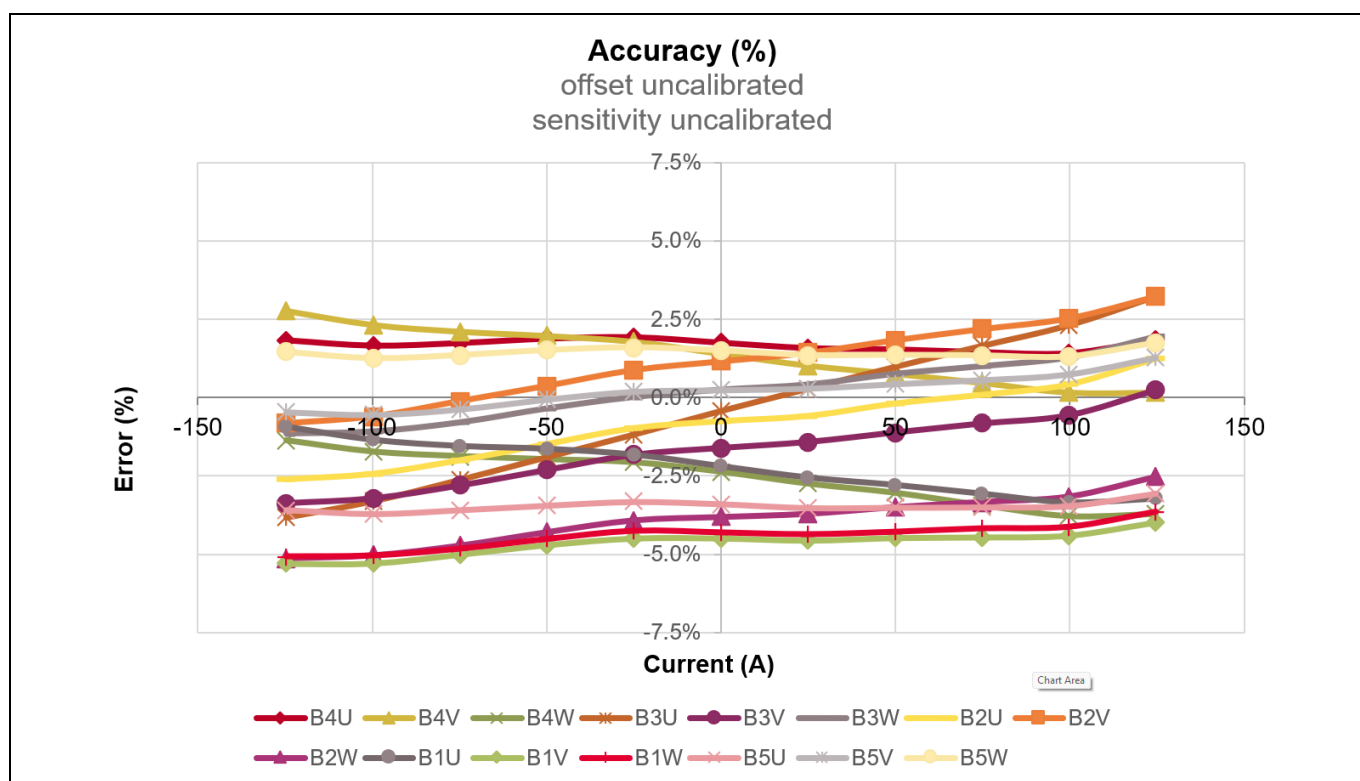
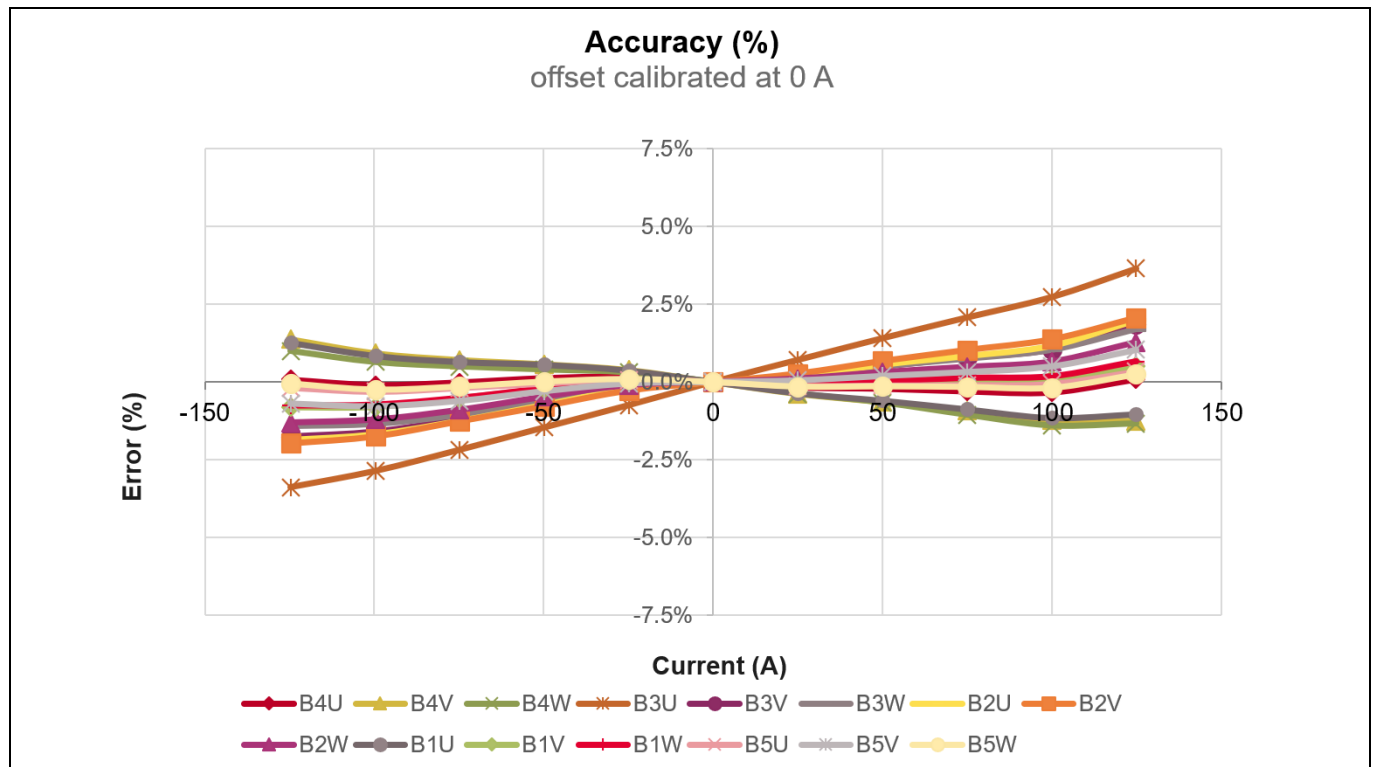
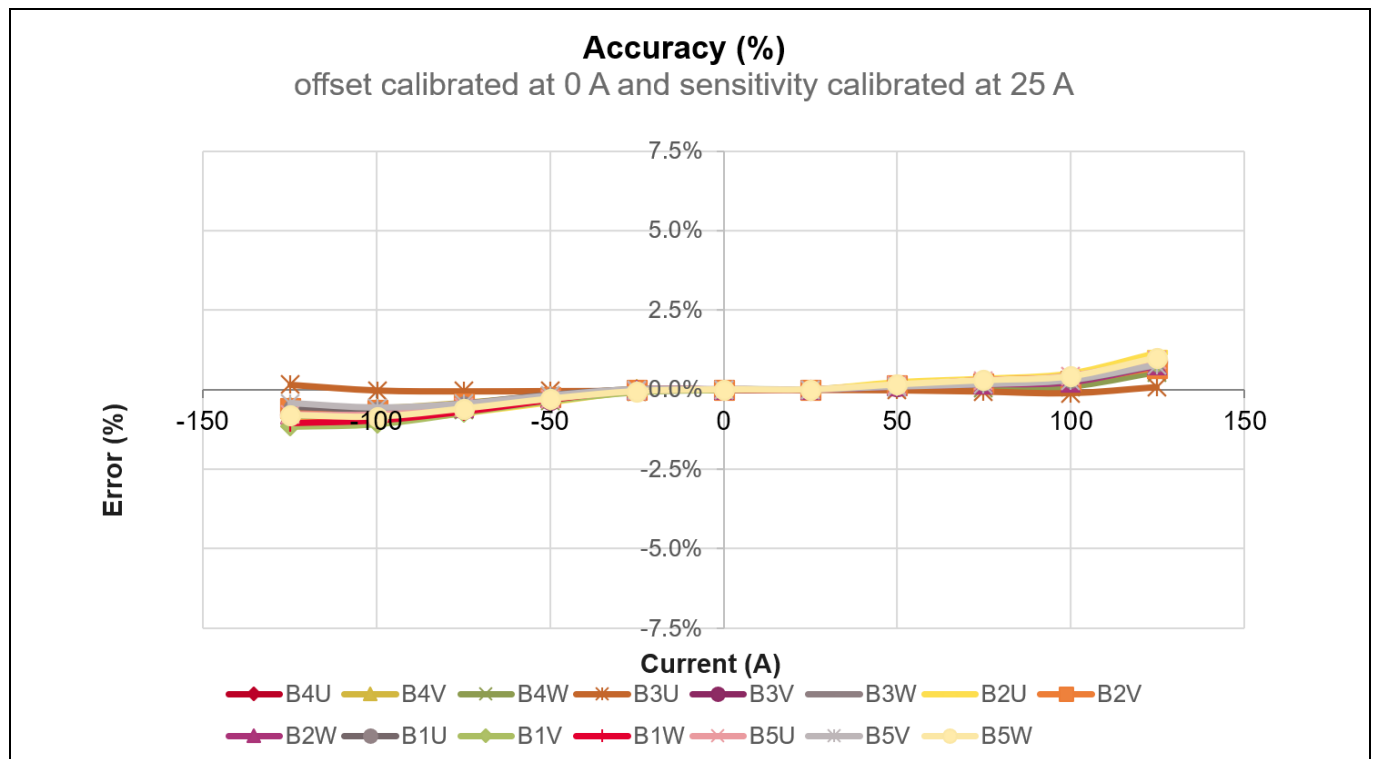

Figure 9 Summary for fifteen sensors without offset and sensitivity calibration
Figure 10 Summary for fifteen sensors after offset compensation at 0 A
Figure 11 Summary for fifteen sensors after offset compensation at 0 A and sensitivity calibration at 25 A
Figure 9 shows the relationship between current (A) and error (%) for uncalibrated sensors. Figure 10 shows data for fifteen sensors after offset compensation when there is no current flowing through the external current rail. The error value converges to 0%. Figure 11 shows data after both offset and sensitivity calibration at 25 A. The values are more closely clustered around the minimum error.